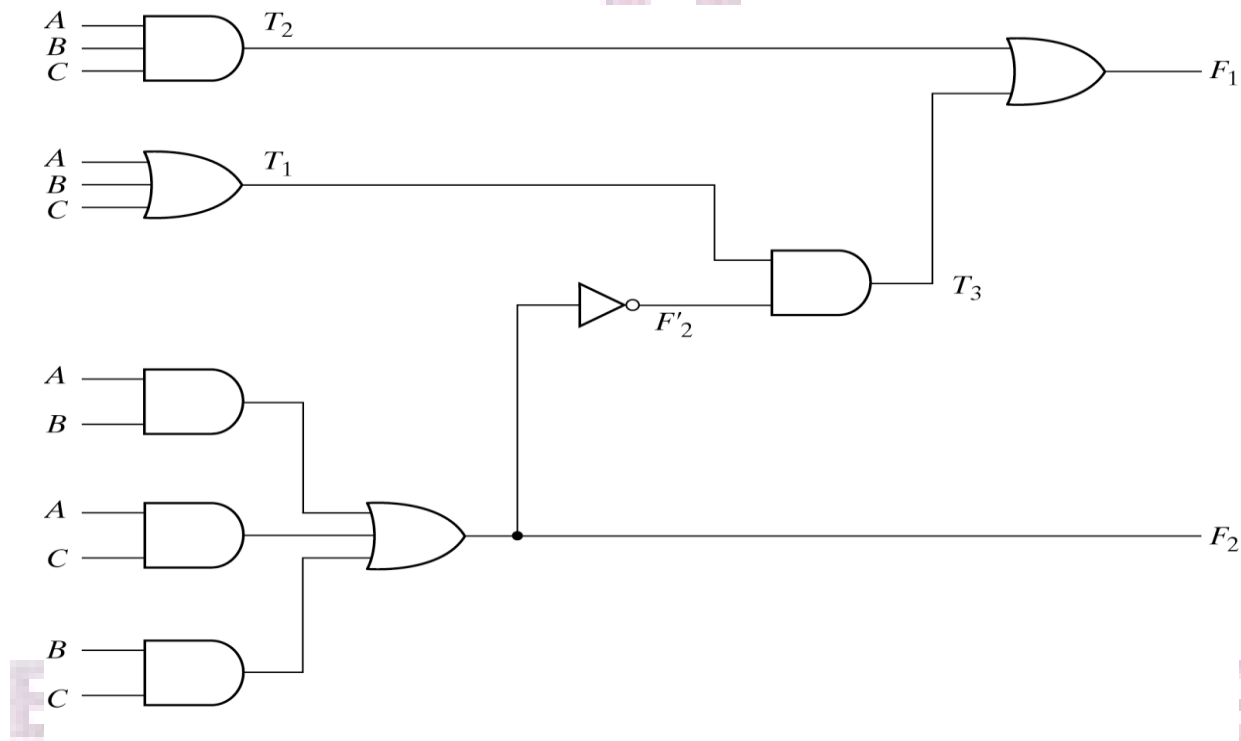

Fig. 4-2 Logic Diagram for Analysis Example
- We can derive the truth table in Table 4-1 by using the circuit of Fig.4-2.
*Truth Table for the Logic Diagram of Fig. 4-2*